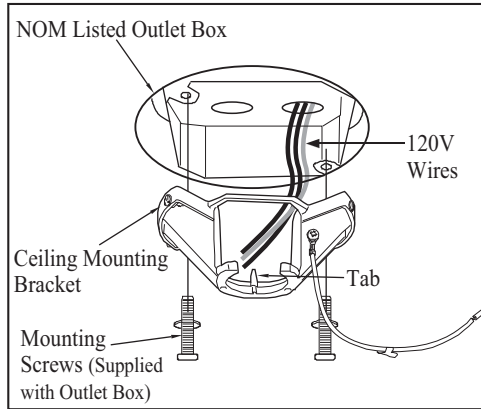

Figure 11
1. Pass the 120-volt supply wires through the center hole in the mounting bracket. (Figure 11)
2. Install the ceiling mounting bracket on the outlet box with the screws and washers provided with your outlet box. (Figure 11) When using “close-to-ceiling” mounting, it is important that the mounting bracket be level. If necessary, use leveling washers (not included) between the mounting bracket and the outlet box. Note that the flat side of the mounting bracket is toward the outlet box. (Figure 11)